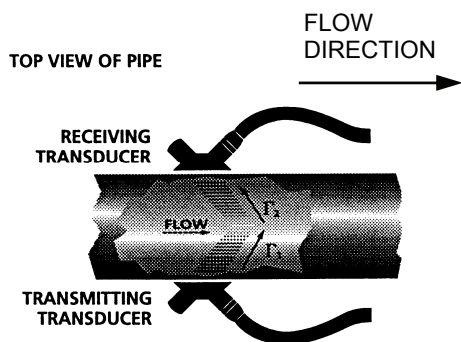

Figure 7
4. Place each transducer under the strap with the flat face positioned towards the pipe. The notch on the back of the transducer will provide a mounting surface for the strap. The transducer cables must be facing in the same direction for proper operation. See **Figure 7**.